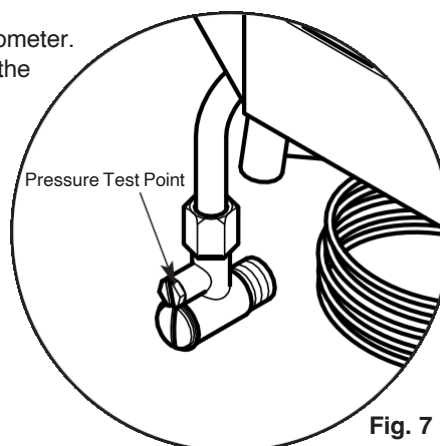

Fig. 7
1. Unscrew the pressure test point sealing screw (Fig. 7) and fit a manometer. Consult the user instructions (page 9). Ignite the appliance and turn to the high position.